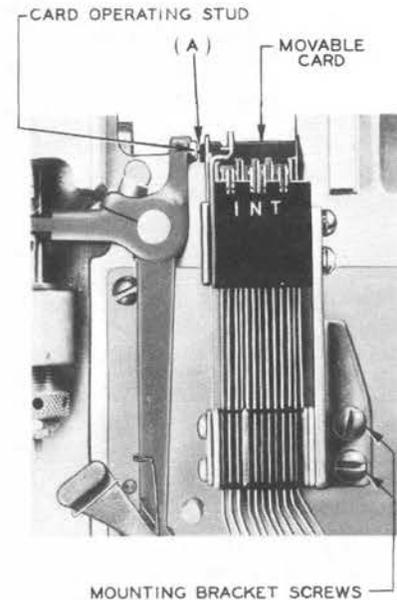

Fig. 26—Clearance Between Movable Card and Card Operating Stud
**2.23 Clearance Between Movable Card and Card Operating Stud:** With the control shaft in the neutral position, the clearance [Fig. 26, (A)] between the movable card of the contact spring assembly and the card operating stud shall be